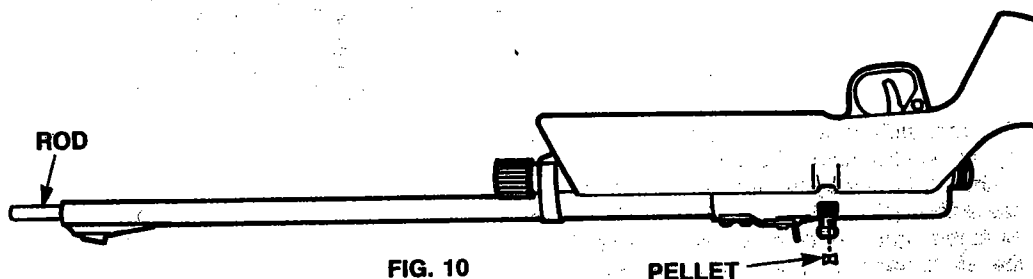

FIG. 10
- D. Open the pellet loader, turn the rifle upside down, insert a rod or straightened clothes hanger into the barrel, push the jammed pellet into the breech and remove it. (Fig. 10) Don't try to reuse a pellet again.